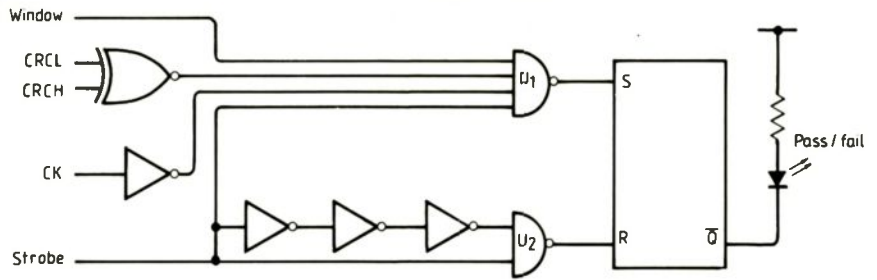

Fig.8. External hardware needed for rom-verify testing of M6804 devices.
**1. Rom verify:** to keep the test program small the rom is verified on-chip. To do this, the device is partitioned to route the high and low-order bytes of the 16 bit c.r.c. (signature) register off-chip, together with some control signals (Fig.7). External hardware required for stand-alone operation is shown in Fig.8.